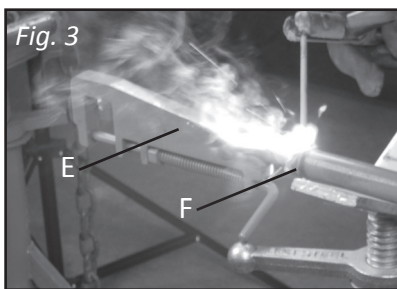

Fig. 3
3. Weld end of reach rod (*F*) to end of hook. (*E*, Fig. 3)